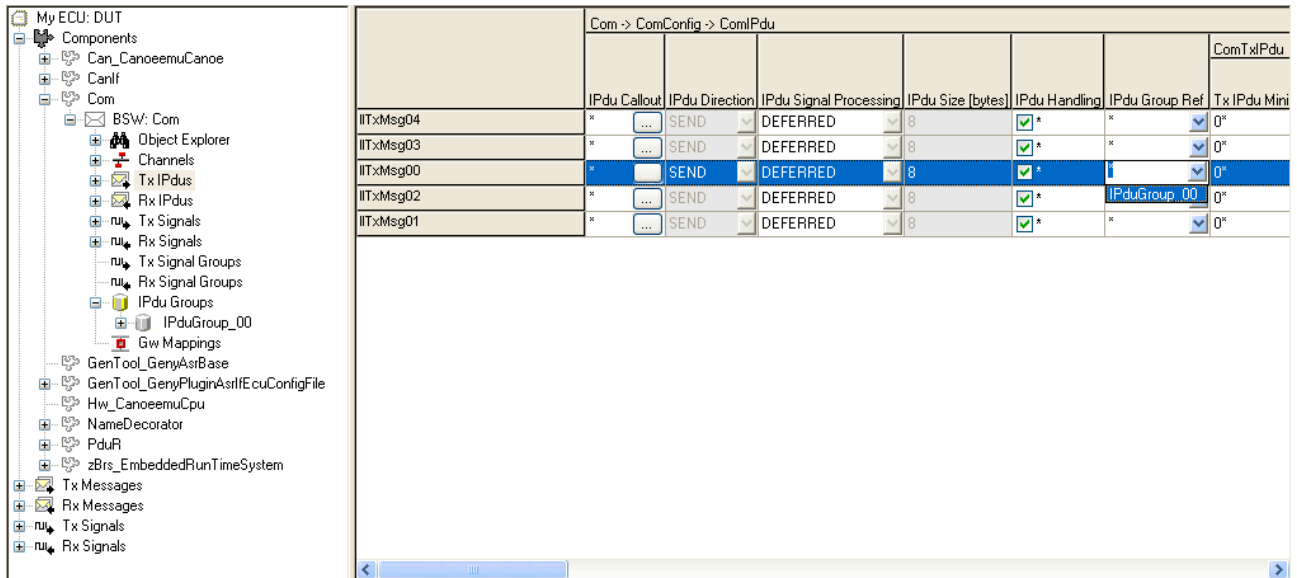

Figure 3-5 Assigning I-PDUs to I-PDU Groups
- > To assign an I-PDU to an I-PDU Group select the corresponding I-PDU Group Ref for the I-PDU in the Rx or Tx I-PDUs list as shown in Figure 3-5.